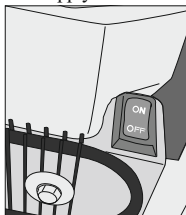
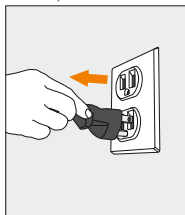

Figure 7
Figure 8
- 5.1 Turn off Hot Tank Switch (Hot & Cold models only) and disconnect power supply cord (Figure 7 and figure 8).